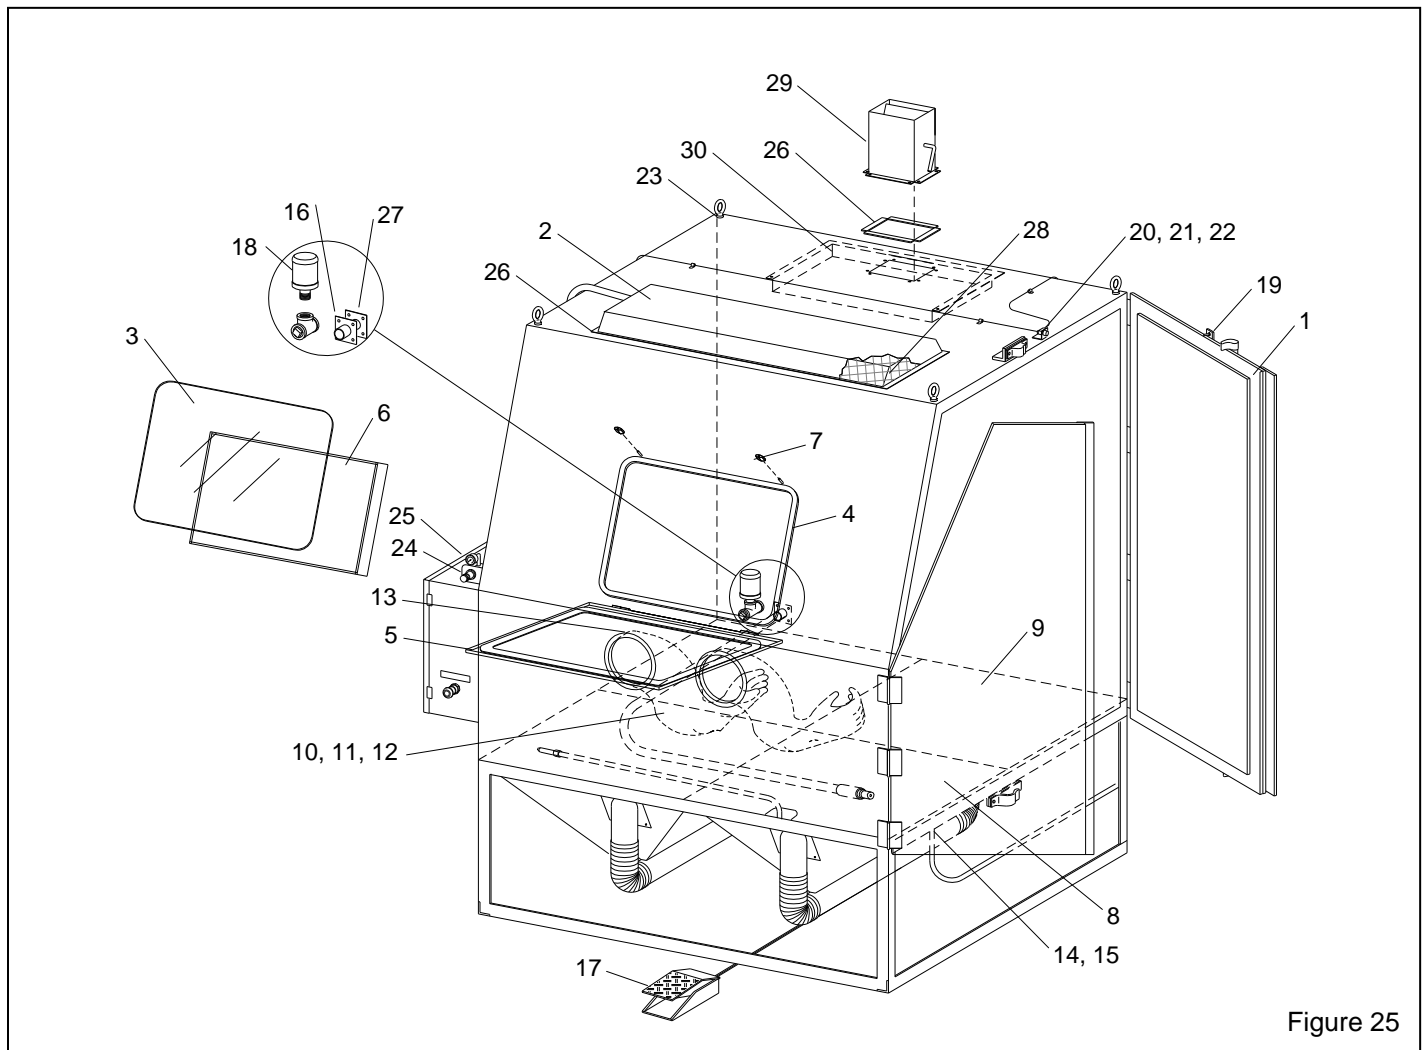

Figure 25
9.3 Cabinet Replacement Parts, Figure 25